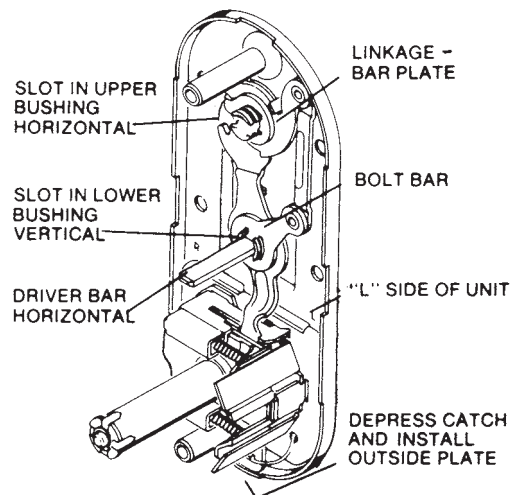

Figure 13.91 Changing hand, Step 22.
22. Check your work (Fig. 13.91).